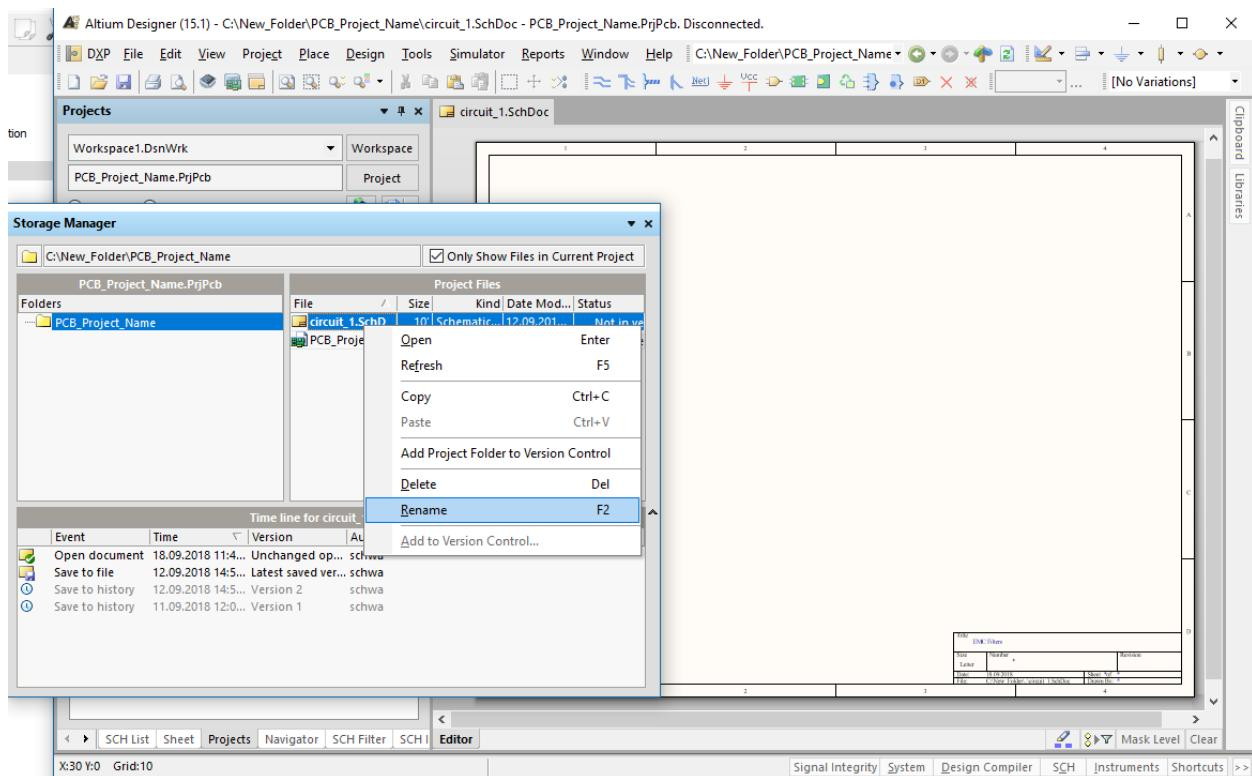
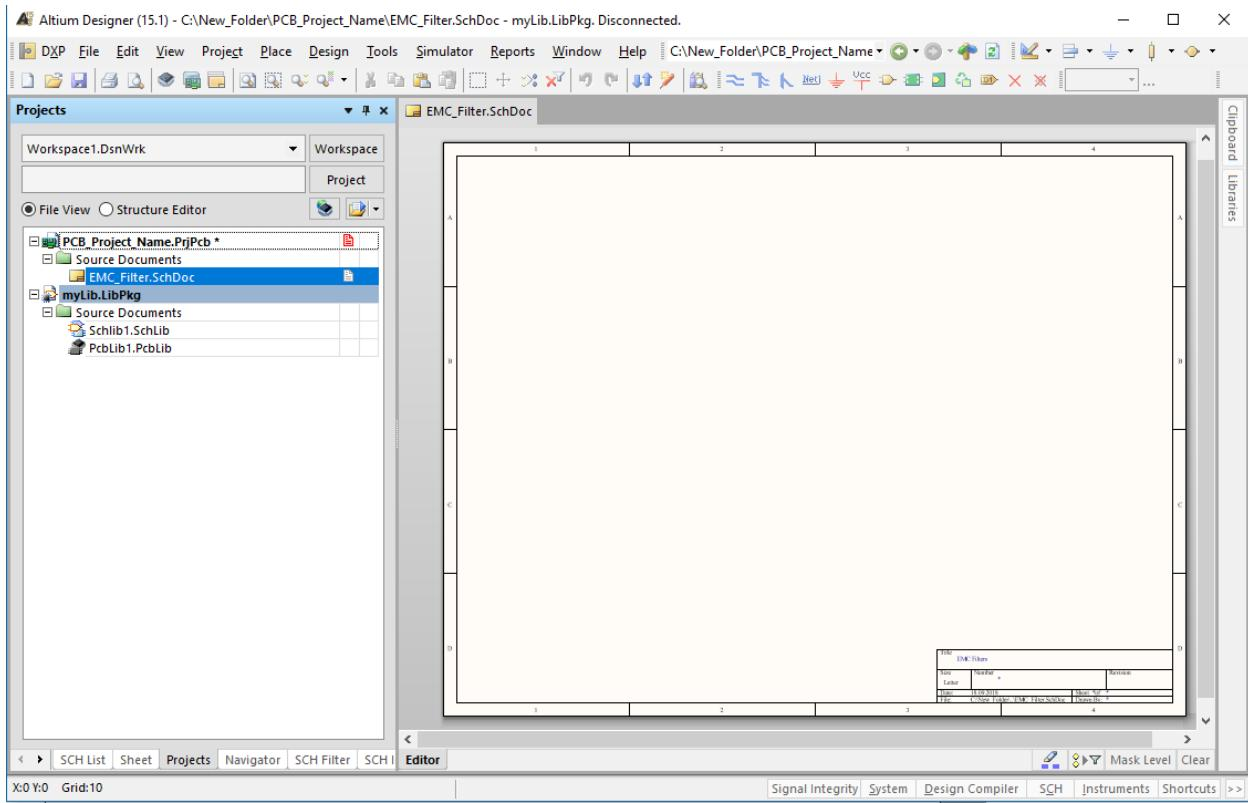

Figure 45: Altium Rename a file without Save As... by using the Storage Manager.
Figure 46: Altium empty schematic document EMC_Filter.
Open the schematic document that we prepared prior in this tutorial. As you might have noticed previously, the title of the document is not the name of the file. To change the name of the file open the Storage Manager dialog by left clicking System, on the menu lower left corner and select Storage manager with left mouse click. Right click on the file which should be renamed and chose Rename, as shown in Figure 45, the content is from the following web page [RenameAltiumDoc]. After doing so and closing the dialog your screen should be looking similar to Figure 46.
26. Your screen should look similar to what is shown in Figure 46.